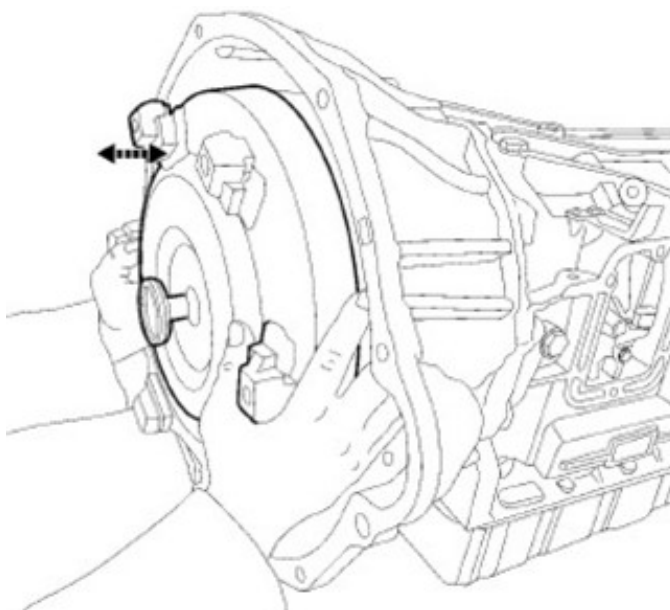

Fig. 2
5. Remove the torque converter from the transmission Fig. 2.
32. Install the torque converter onto the input shaft while applying inward pressure and rotating back and forth at the same time in order to align the input shaft splines and the two teeth on the oil pump drive gear Fig. 2.